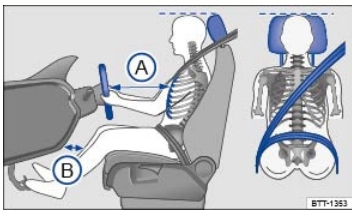

Fig. 36 The driver should never sit closer than 10 inches (25 cm) from the steering wheel.
- Adjust head restraints so that the upper edge of the head restraint is at least at eye level or higher. Position the back of your head as close as possible to the head restraint ⇒ Fig. 36 (dotted line).